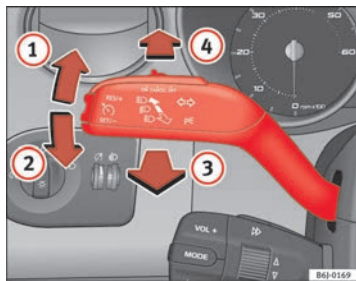

Fig. 55 Turn signal and main beam headlight lever
- Move the lever all the way up ⇒ fig. 55 ① to indicate **right**, and all the way down ② to indicate **left**.
- Press the lever forward ⇒ fig. 55 ④ to switch on the main beams.